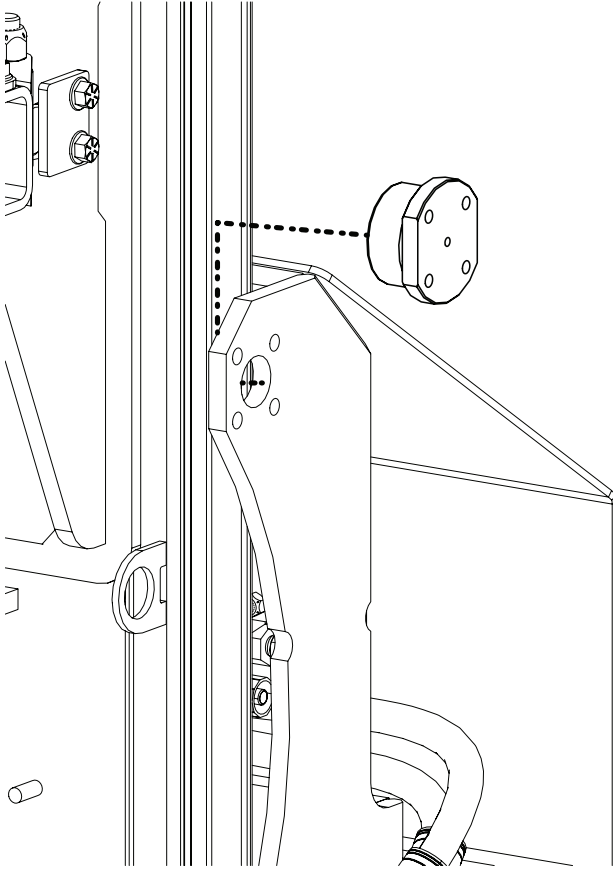

Figure 6
12. Insert the new roller (PN 1541824) into the track and slide into position (Figure 6).